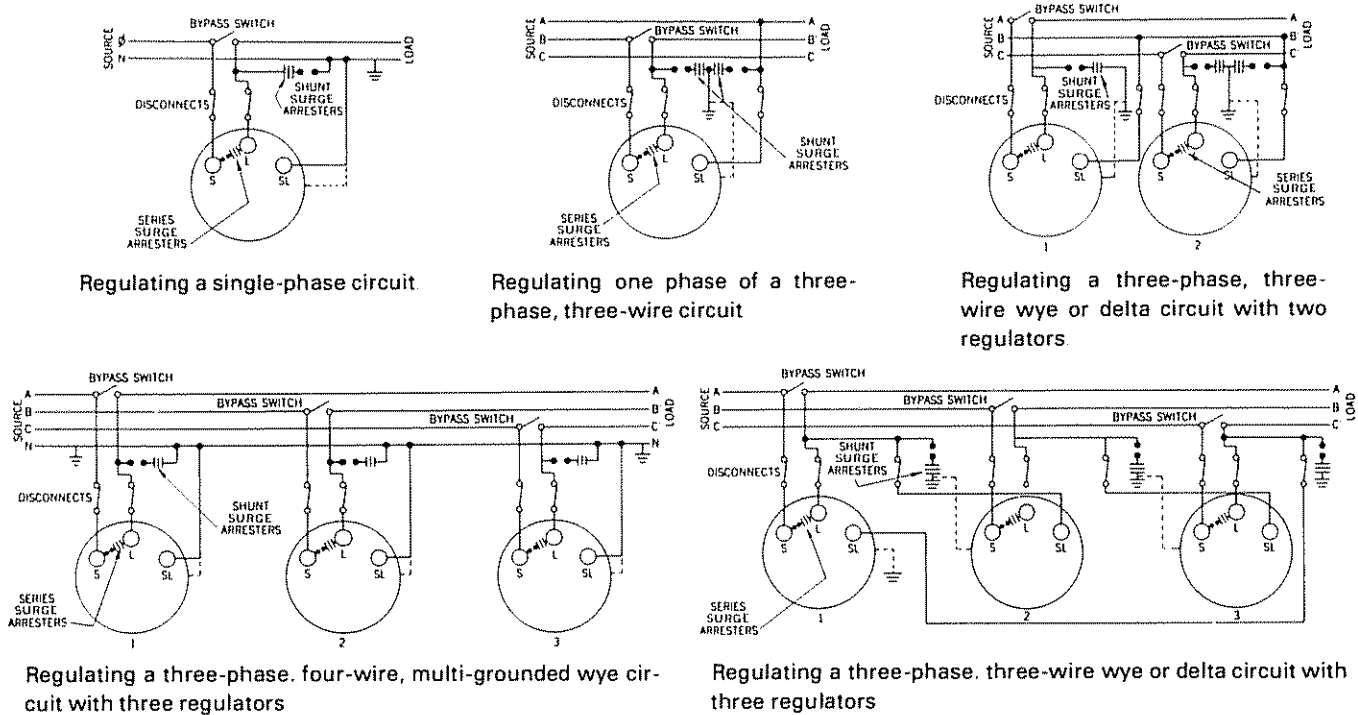

Figure 7
All simplified regulators are equipped with a bypass arrester connected across the series winding. A metal-oxide varistor in the control cabinet provides surge protection for the control unit. Surge protection is recommended for the shunt winding of the regulator. Refer to Table 1 for the recommended arrester for various applications. Refer to Figure 7 for the recommended number and locations of arresters
- B. Interconnect the tank ground with the surge arrester ground (Figure 7).
One regulator can regulate a single-phase circuit or one phase of a three-phase wye or delta circuit. Two regulators connected in open-delta, or three regulators connected in closed-delta, can regulate a three-phase, three-wire wye or delta circuit. When connected in wye, they can regulate a three-phase, four-wire multi-grounded wye circuit. Three regulators cannot be connected in wye on three-phase, three-wire circuits because of a possible neutral shift. Typical connection diagrams are illustrated in Figure 7.